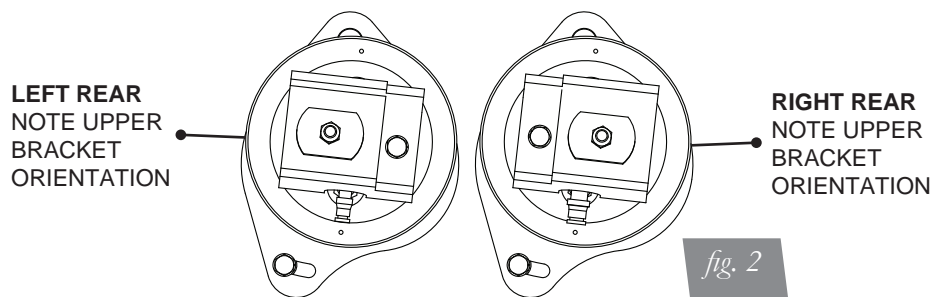

fig. 2
NOTE: See figure 2 to view the left and right upper bracket orientation.
2. Insert flat head bolt (B) through the rear bottom bracket (A) prior to installing the air spring to the bracket.
3. Apply a roll plate (D) to the bottom side of the air spring (E) with the lower air spring bolt holes accessible. Align these holes with the bottom bracket holes (make sure the flat head bolt [B] is still installed) and thread screws (C) through the bottom bracket and into the air spring. Torque to 27 Nm (20lb-ft).
4. Attach the corresponding upper bracket (left [I] and right [H] specific) and roll plate to the air spring using the supplied fine thread hex bolts (J) and washers (K). Please note the upper bracket orientation as shown in figure 2. Torque bolts to 27Nm (20lb-ft).